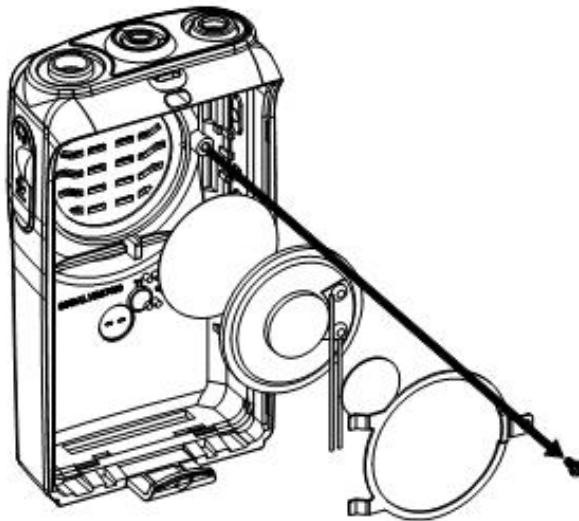

Figure 2-6
- Unscrew the speaker bracket from the housing (see “Figure 2-6”).